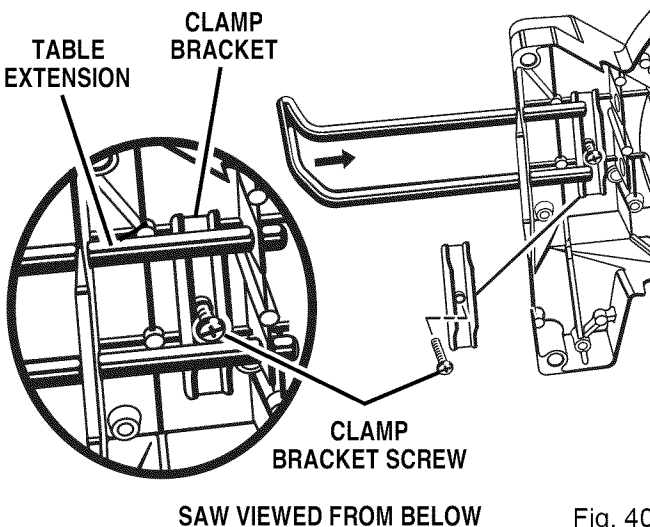

Fig. 40
Secure them in place by positioning a clamp bracket under each table extension beneath the miter table. Orient each clamp bracket as shown in figure 40.
- Holding the clamp bracket on the bracket support, place table extension through the holes in the end of the miter saw base and into the corresponding extension support trapping the clamp bracket against the saw table. See Figure 40.